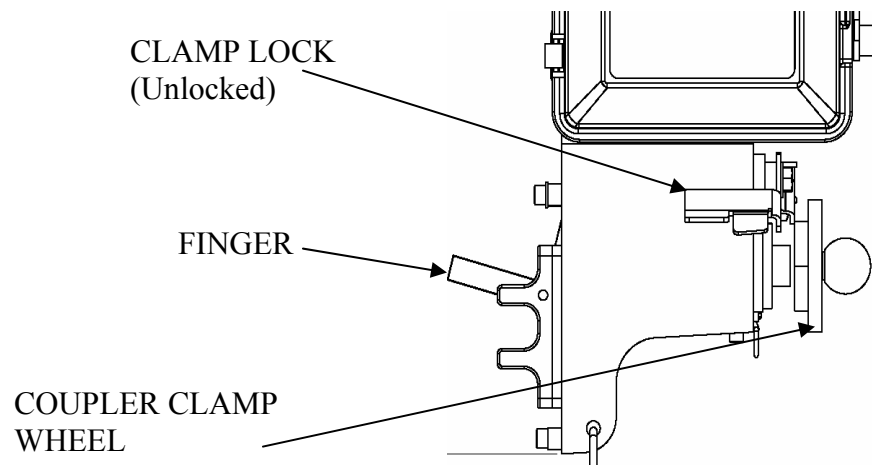

Figure 3
3. Release Clamp Lock by pulling downward. Turn Coupler Clamp Wheel counter-clockwise to fully extend Finger to perpendicular position (against stop). See Figure 3. Then set the Clamp Lock by allowing it to return upward against the Cover and engage the Coupler Clamp Wheel.
7. Release Clamp Lock by pulling downward. See Figure 3.
1. Release CLAMP LOCK to unlock the cover. See Figure 3 & 6.